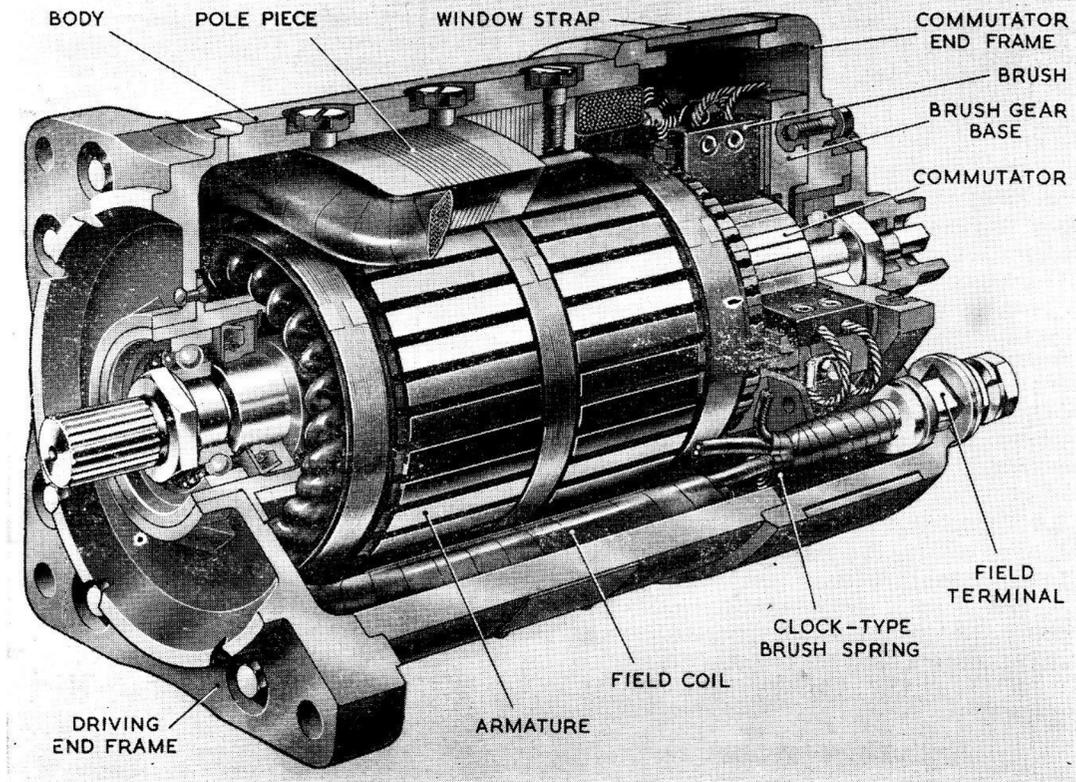

Fig. 2. Sectional view of starter motor, Type C530I
2. Each starter comprises three main assemblies (*fig. 2*), the driving end frame, the body or yoke and the commutator end frame.